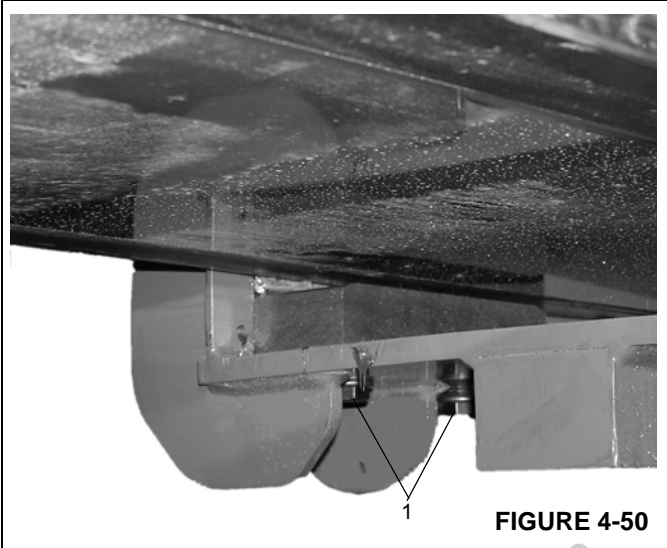

FIGURE 4-50
9. Raise the Fly Section slightly and insert the bottom wear pad in to place and secure with retaining bolts. Insert the bolts (Figure 4-50, 1) from the bottom of the Outer Mid Section.